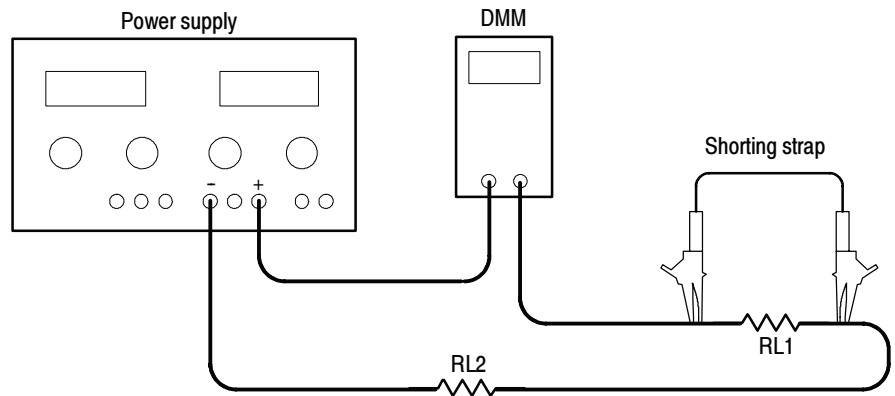

Figure 2: Constant current test setup
8. Connect the digital multimeter and load resistors to the + and - terminals of the power supply MASTER output as shown in Figure 2. See Table 7 for the appropriate load resistor values.
9. Verify that the power supply output current varies less than 0.2% \pm 3 mA while shunting load resistor RL1 with the shorting strap. See Figure 2 above.
7. Connect the digital multimeter and load resistors to the + and - terminals of the power supply SLAVE output as shown in Figure 2. See Table 7 for the appropriate load resistor values.
8. Verify that the power supply output current varies less than 0.2% ±3 mA while shunting load resistor RL1 with the shorting strap. See Figure 2 above.
7. Connect the digital multimeter and load resistors to the + and - terminals of the power supply MASTER output as shown in Figure 2. See Table 7 for the appropriate load resistor values.
8. Verify that the power supply output current varies less than 0.2% \pm 5 mA while shunting load resistor RL1 with the shorting strap. See Figure 2 above.